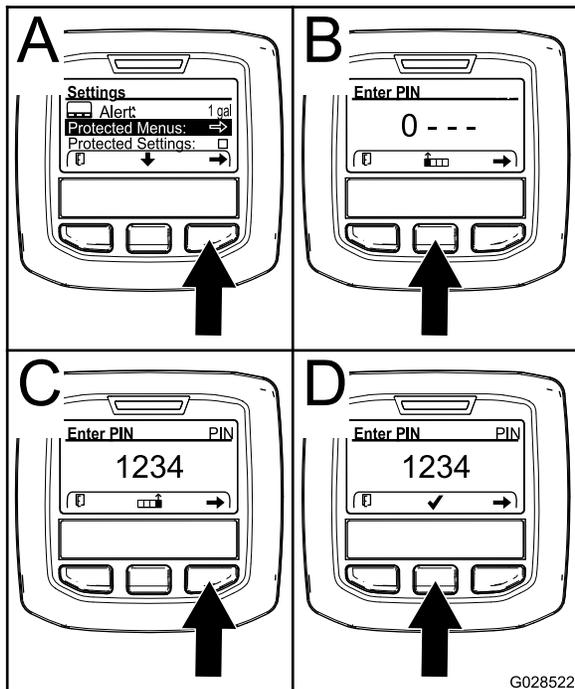

Figure 11
2. Press the right select button to select Protected Menu (A of Figure 11).
- Press the center selection button (B of Figure 11) to increase the numerical value (0 to 9).
- Press the right selection button (C of Figure 11) to move the cursor to the next numerical position to the right.
**Note:** The checkmark icon appears above the center selection button (D of Figure 11).
5. Press the center selection button (D of Figure 11) to enter the password.